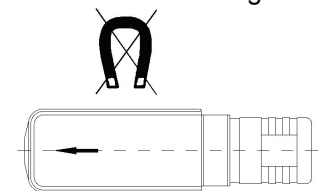

Fig. 2a
- ✚ Please make sure that there are no external magnetic fields in the immediate vicinity of the flow switch, since these can impair device functioning (Fig. 2a).
- ✚ There is an arrow on the flow switch. Ensure that this arrow is parallel with the pipe shaft and is facing in the direction of flow during installation (Fig. 2a).